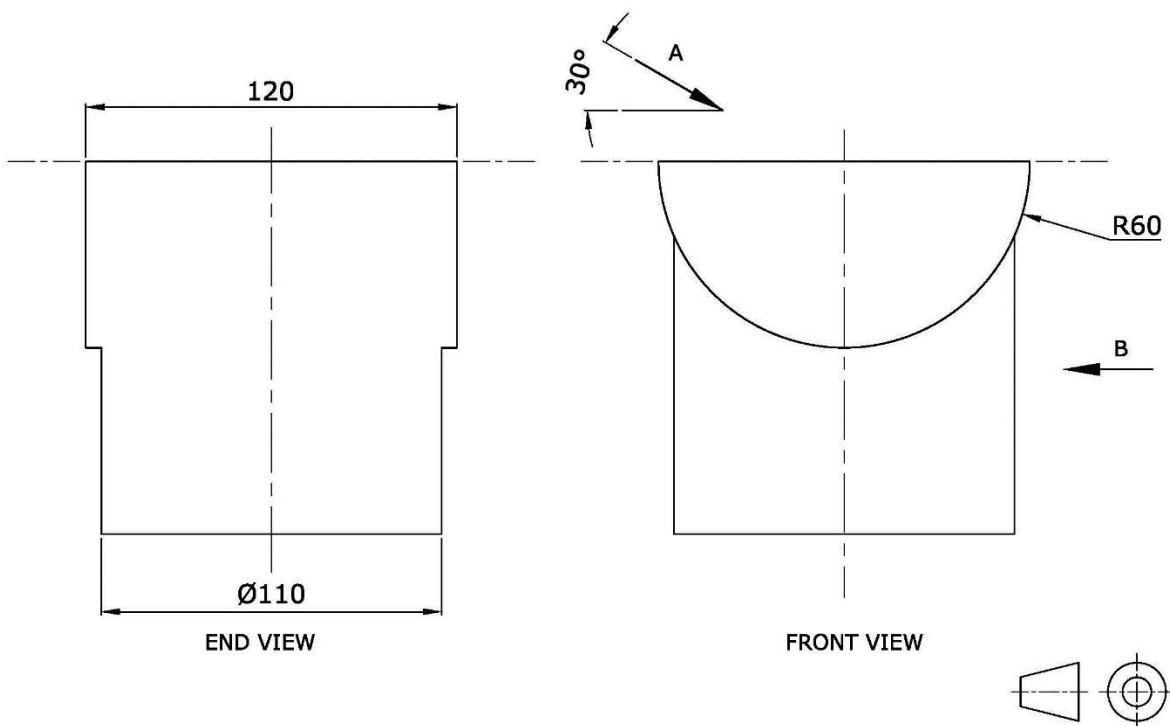

Figure 2b
- a) the given front view shown in Figure 2b; (3)
- b) an auxiliary plan looking in the direction of the arrow A, showing all hidden details; (7)
- c) an end view as seen when looking in the direction of the shown arrow B, showing the curve of intersection. (3)